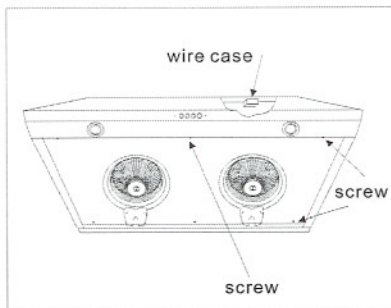

Fig.13
1. Turn the six nuts at the front/back of bottom board. (Fig.13)
2. Remove screws on wiring case, fish out wires through the knockout. (Fig.13)